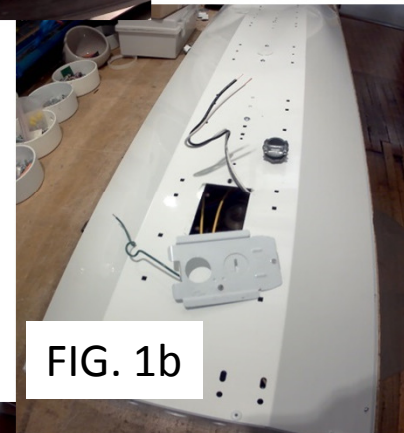

FIG. 1b
- Remove a knockout from the back knockout panel from each fixture (Fig. 1b).